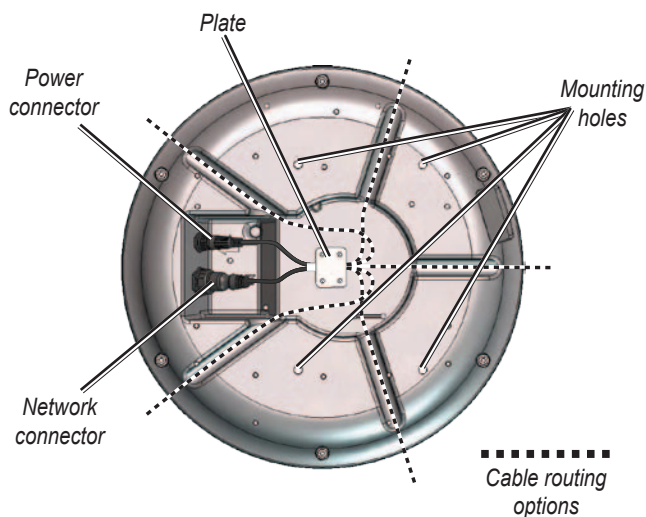
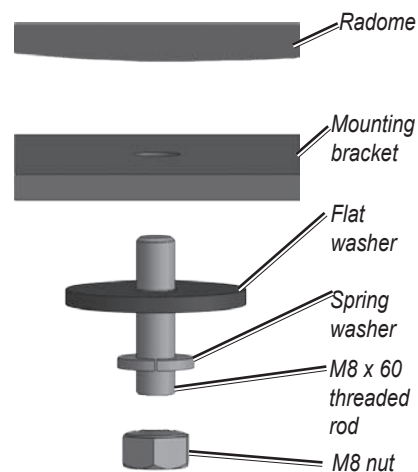

Figure 2
Figure 3
2. Align the notch and locking ring on the power cable to the power connector. Press the 2-pin power cable to the power connector and the RJ-45 marine network cable to the RJ-45 socket (Figure 2). Turn the power cable locking ring clockwise until it stops. Tighten the RJ-45 locking ring clockwise until it is firmly sealed.
3. The power and network cables may be pressed into any of the five guide grooves molded into the bottom of the radome case and secured under the cable hold-down plate (Figure 2). Avoid excessive bending or twisting of the cables. See the following "Cable Runs" section for more information.
6. Install the four (4) M8 x 1.25 x 60 threaded rods into the mounting holes on the bottom of the radome. There should be no more than 50 mm \pm 1mm (2") extruding from the radome when they are installed properly.
7. Fasten the radome to the mounting surface using the M8 x 1.25 x 60 threaded rods (installed in the previous step), spring washers, flat washers, and M8 Hex nuts as shown in Figure 3. **The nuts should be torqued to between 13.7-18.6 N m (10-14 lb ft).**